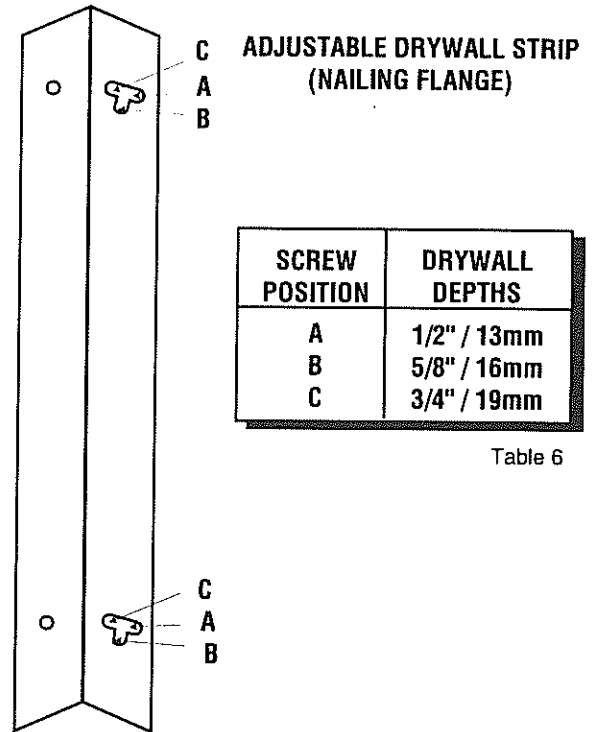

Fig. 5
4. Attach fireplace to frame using adjustable frame drywall strips (nailing flange). Preset depth to suit facing material (adjustable to 1/2" , 5/8" or 3/4" depths). Fig. 5.